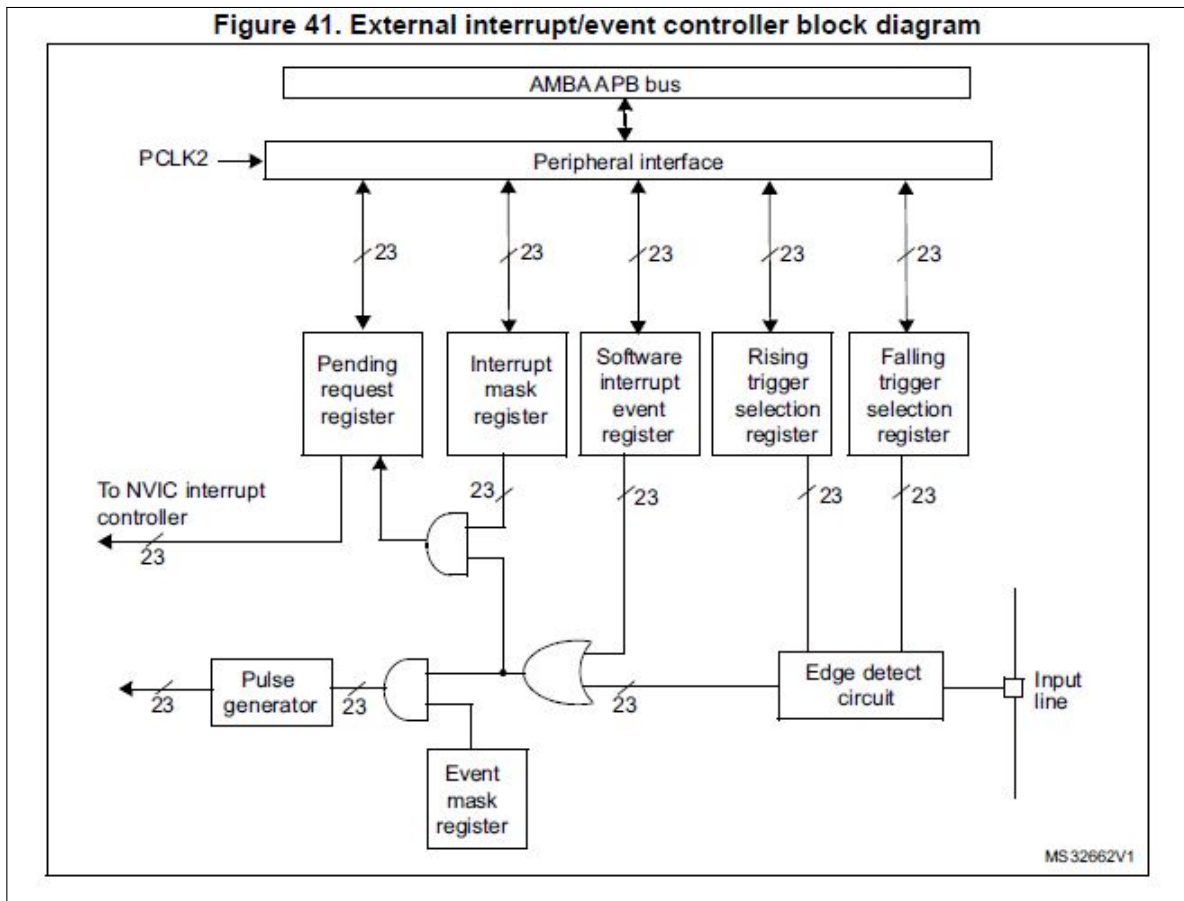

Figure 1.2: EXTI Peripheral from stm to handle some peripheral interrupts
To handle peripheral interrupts, stm has what is called *EXTI*, that is external interrupt controller. It's block diagram is shown in Figure 1.2.
- In Figure 1.2, we have several register such as Rising trigger selection, falling trigger selection